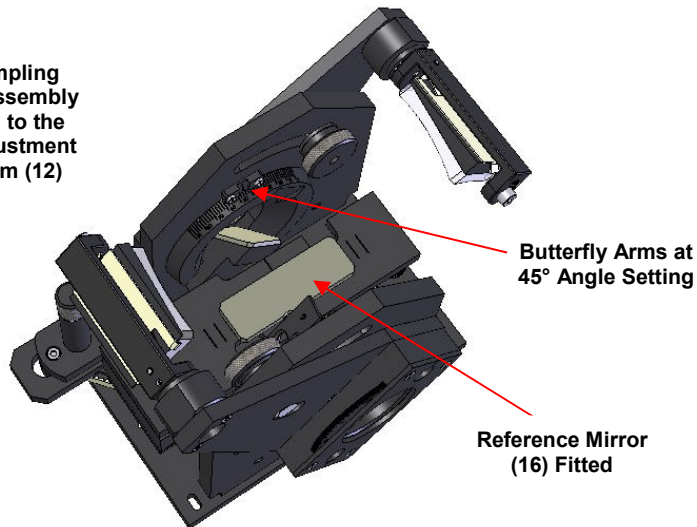

Fig 17. Reference Mirror Fitted for Liquid or Solid Sampling
- 3) Take the reference mirror (**16**) and place it inside the PTFE liquid sampling trough (**3**) of the liquid sampling platform assembly (**4**) or centrally on the engraved section of the flat metal solid sampling platform assembly (**11**), depending on which sampling stage is fitted. (See **Fig 17.**)